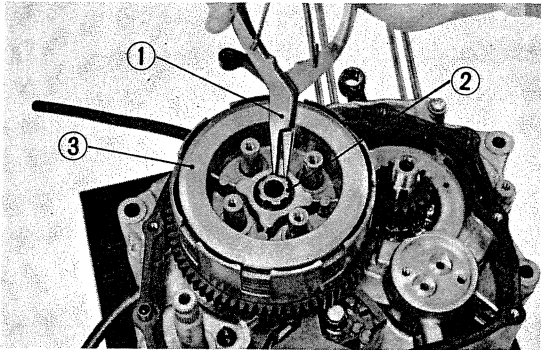

Fig. 66 Clutch outer removal
① Clutch center ② Clutch friction disc ③ Splines
- 3) Unfasten the 20mm set ring and remove the clutch center together with the friction disc. (Fig. 66)